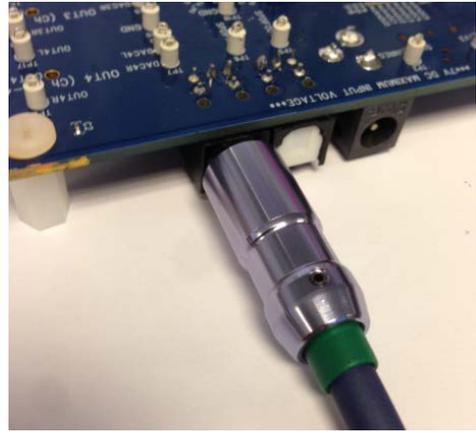

Figure 34. Photograph of the Optical S/PDIF Input Connection
1. Connect an S/PDIF source to the EVAL-ADAU1452MINIZ by using a standard TOSLINK optical cable and connecting it to J8, the S/PDIF receiver connector (see Figure 34).